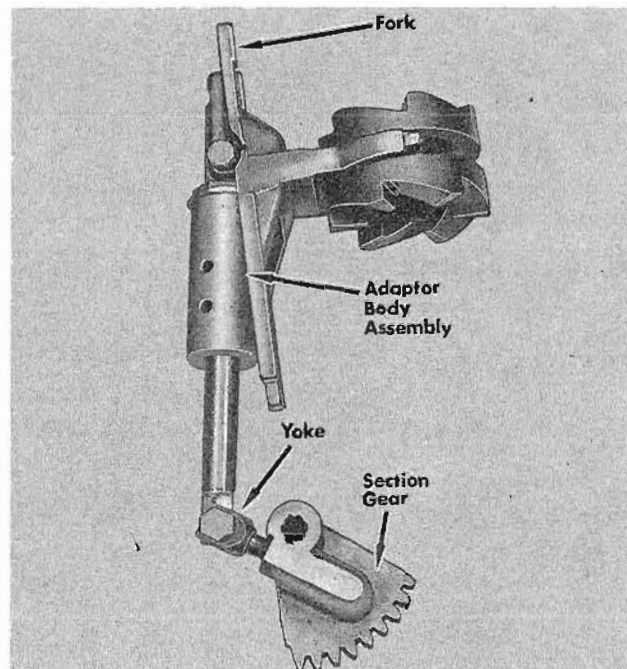

Figure 1. Yoke Attached to Cable and Sector Gear
3. Turn yoke "out" to decrease cable travel. Adjust yoke one full turn at a time to prevent adaptor body from striking back of yoke. (Figure 1)